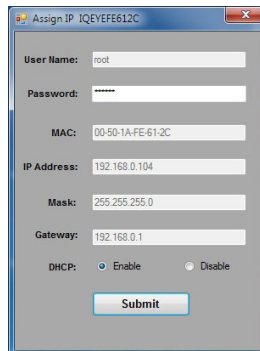

Figure 12
2. The “Assign IP” window allows the IP address, Subnet, and Gateway of the camera to be changed and alternatively the camera to be configured for DHCP operation. Click the “Submit” button after making the desired changes (Figure 12).